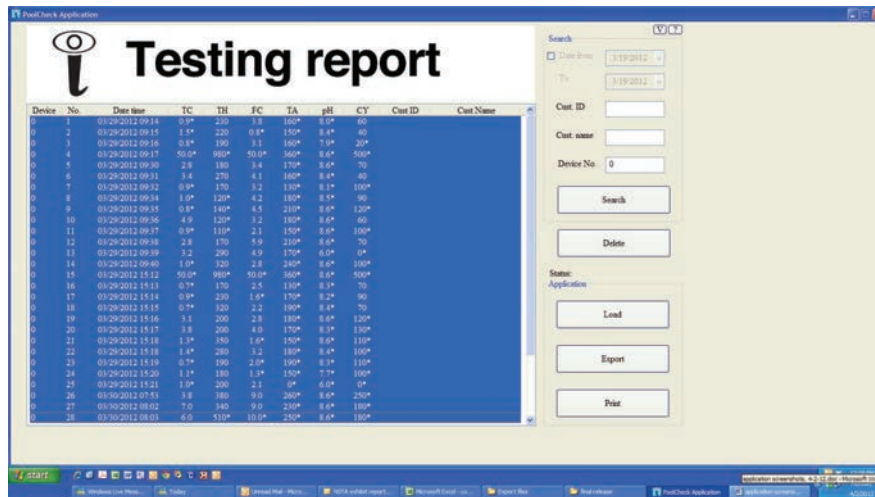

Figure 14—data selected to delete
2. Click on data and drag the cursor to highlight the desired data (Fig 14 & 15).